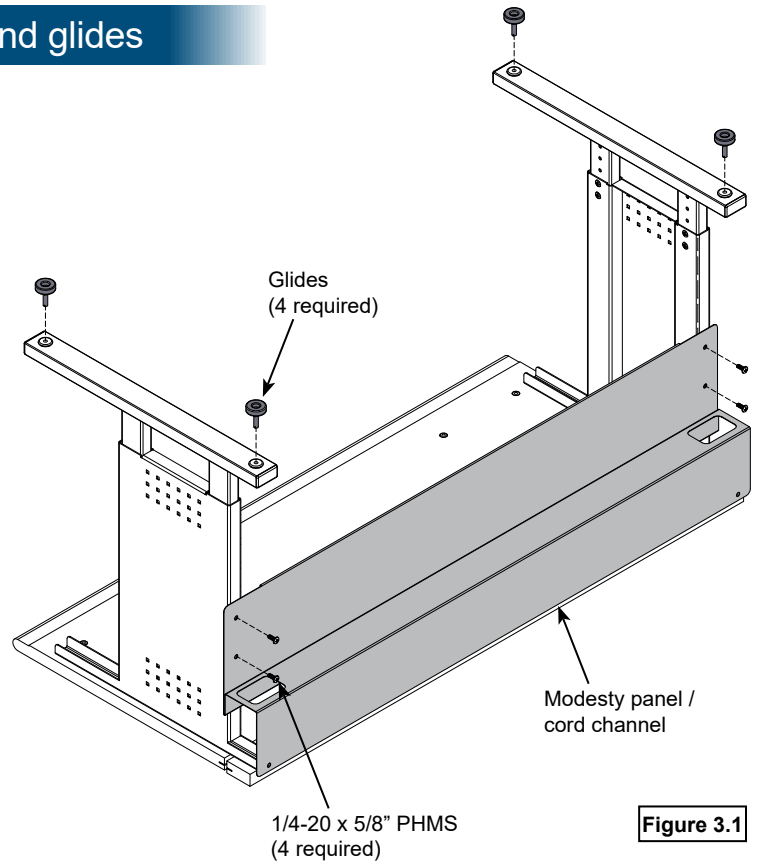

Figure 3.1
1. Orient the modesty panel/cord channel as shown and attach to the legs with (4) 1/4-20 x 5/8" PHM screws. **Figure 3.1.**